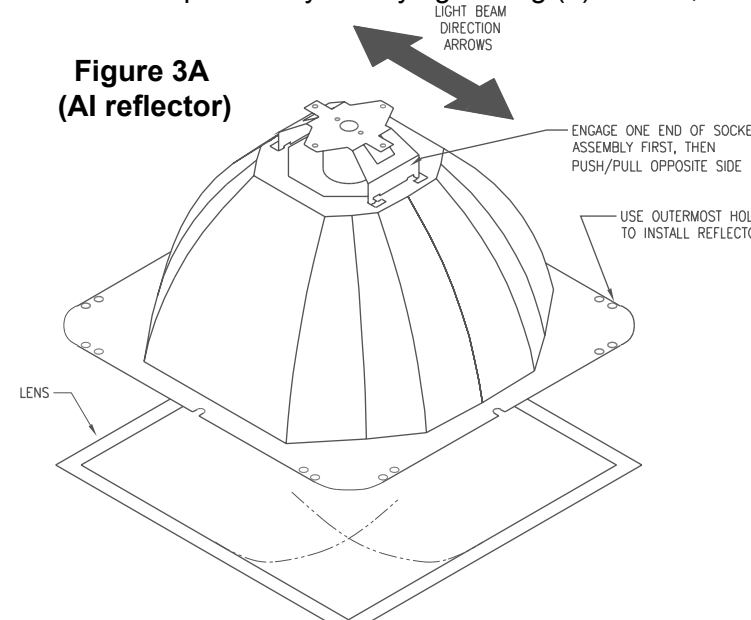

Figure 3A (AI reflector)
16. Locate socket assembly packed in *bottom of outer* reflector carton. Attach socket assembly to top of new reflector by engaging tabs on one end of socket assembly into mating slots of reflector top. Then push/pull opposite side of socket assembly to engage opposite side of reflector top. Depending on which type of reflector kit you have, see Figures 3A-3C.
- NOTE: Reflectors are directional. Use arrow on label to direct light beam in correct direction.** Depending on reflector type, see Figures 3A-3C for light beam arrows.
23. Install top cover by evenly tightening (4) screws, making sure safety cable is not pinched.